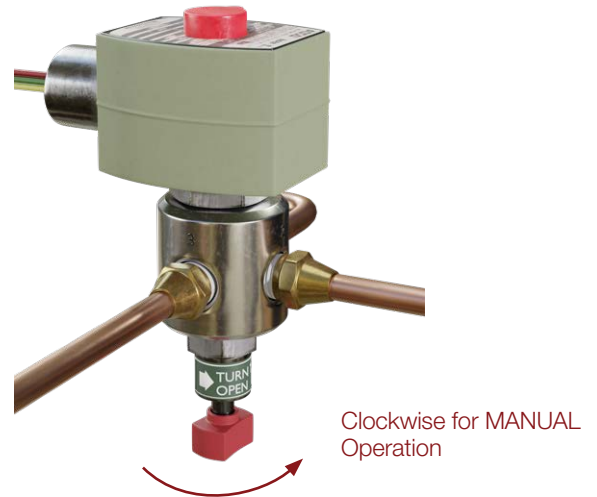

Figure 1
**3-Way Solenoid Valve** – Turn manual operator stem counter-clockwise to full out position (See Figure 1).